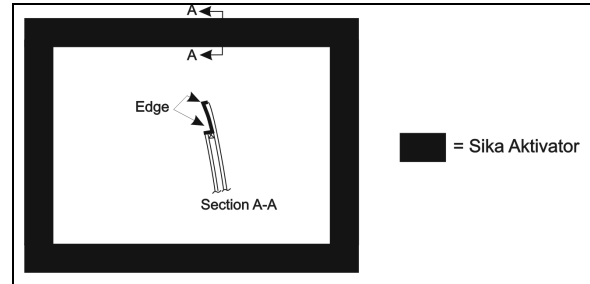
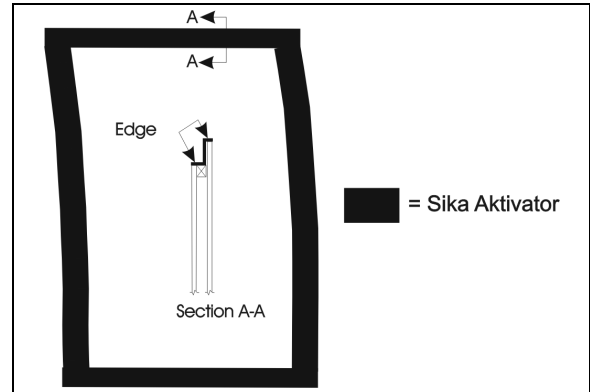

FIGURE 54 : FACE FIXED WINDOW AND HALF-WINDOW - SIKA AKTIVATOR
FIGURE 55 : SIDE FIXED WINDOW - SIKA AKTIVATOR
5. Apply Sika Aktivator on the window pane as per FIGURE 54 or FIGURE 55.